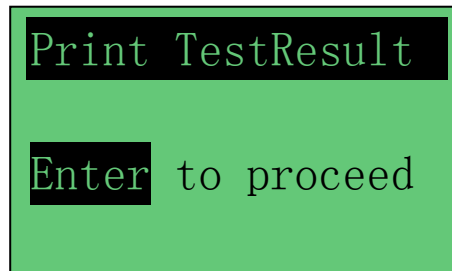

Figure 80
- While in this mode, you can print the results by pressing  key and the display will prompt you: (Fig. 80) if the printer is connected.